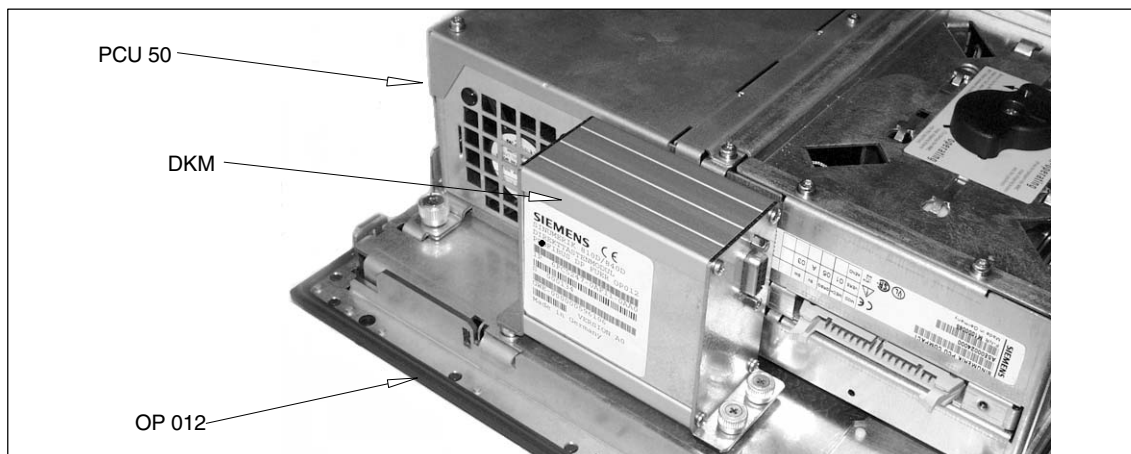

Fig. 11-10 Installed direct control key submodule
7. Insert the PROFIBUS plug (with straight outgoing cable) into the socket of the DKM (see Fig. 11-10).